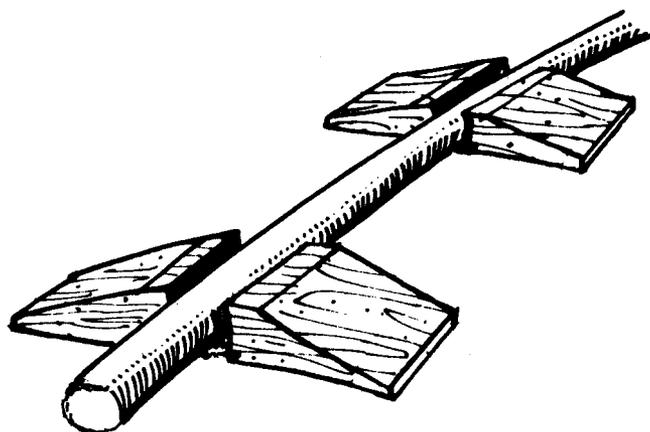

Figure 2-8. Hose bridges.
(1) Dragging the hose along the ground frequently results in cuts, abrasions, punctures, and damaged couplings, threads, or lugs.
(2) Pulsations in the pump cause the suction and discharge hose sections to vibrate which chafes the hose jackets where the hose touches. Serious hose injury results when these surfaces are rough or have sharp edges. Hose damage is most pronounced near the engine. Farther away, the vibration is absorbed by the elasticity of the hose.
(3) Vibration may be almost unnoticed, yet it may weaken the hose so much that it fails in a relatively short time. To prevent this, chafing boots must be inserted between the hose and the ground at the affected points. If chafing boots are not available, burlap, rope cushions, or any suitable substitute may be used. The chafing boot consists of a pad, usually a portion of salvaged hose, which is strapped or clamped to the hard or soft suction hose during pumping operations.
(4) Hose may be damaged by improper operation at the shutoff nozzle. Closing the nozzle quickly causes a sudden increase in pressure which may rupture the hose. If the nozzle is opened quickly, back pressure will increase 50 percent, and the operator may lose control of the hose, which may injure personnel in addition to damaging the hose.
(5) One of the most common causes of hose injury is the result of vehicles being driven over hose layouts. Serious damage is less likely when the hose is charged with pressure. When the hose is empty or under insufficient pressure, the jacket may be separated from the lining or the hose may be ruptured or torn from the coupling. This type of damage can be prevented by hose bridges (fig. 2-8). Two of them should be built and carried on the truck at all times. After the hose lines are laid, the bridges are placed over them at the desired spacing, generally about 4 feet (1.2 meters) apart. If standard bridges are not available, a suitable bridge may be set up with materials found at the scene of the fire. A simple bridge consists of planks, laid on each side of the hose, thick enough to keep the wheels from striking the hose.
(6) When possible, the hose lines should be stretched on the same side of the road as the fire. The lines should be laid parallel to the curb, but not so close to the curb that acid or oil floating down the gutter may come in contact with the hose. When a street or areaway must be crossed, the hose should be laid on the same side of the street as the hydrant, parallel to the curb and up to a point opposite the fire, then across the street. Thus, fire equipment that follows need not travel